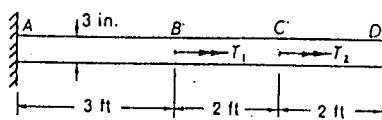

Fig. P6.97
6.97. An aluminum shaft is rigidly restrained at each end and loaded by couples as shown in Fig. P6.97. If $T_1 = 12,000$ in.-lb and $T_2 = 10,000$ in.-lb, compute the maximum shear stress in each section and the rotations of cross sections at *B* and *C*.